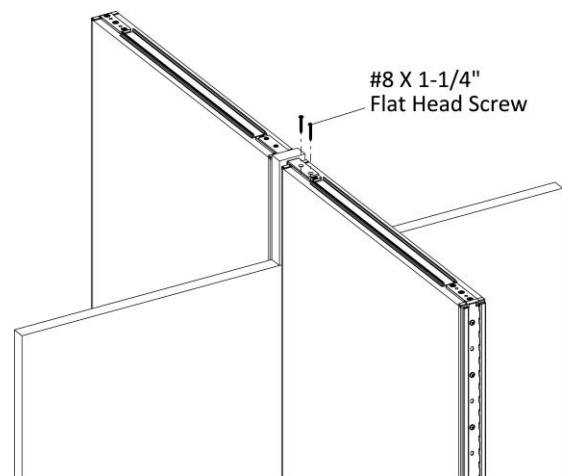

Figure 5
- 9. Follow **Steps 6 and 7** to install the other standard panel, (Figures 5 & 6).